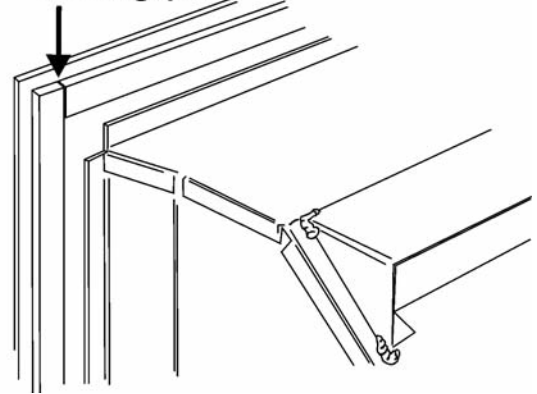

Figure 7. Fitting the foam seal.
4. Three strips of self adhesive foam sealing material are supplied. Remove the protective backing from the seals and fit them to the rear of the convection box top and side flanges as in figure 7 (On TC models fit the foam seal to the rear of the spacer frame). Ensure that there is no gap between the seals where they meet and that there is full contact with the fireplace front.